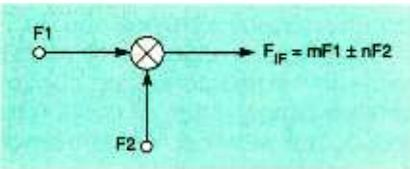

Fig. 1. If two input frequencies,  $F_1$  and  $F_2$ , are combined in a nonlinear mixer, then the output spectrum will include the products  $F = mF_1 \pm nF_2$ .
**M**ixer circuits are designed to operate as frequency translators. They are nonlinear circuits that produce an output frequency spectrum that includes various products of two input frequencies. As shown in Fig. 1, if two input frequencies,  $F_1$  and  $F_2$ , are combined in a nonlinear mixer, then the output spectrum will include the products: